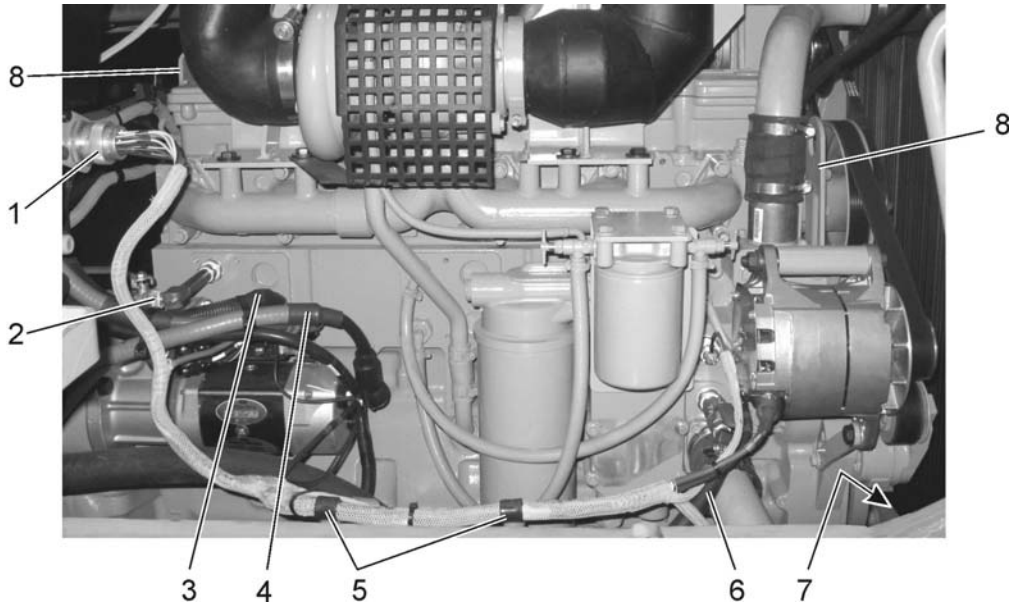
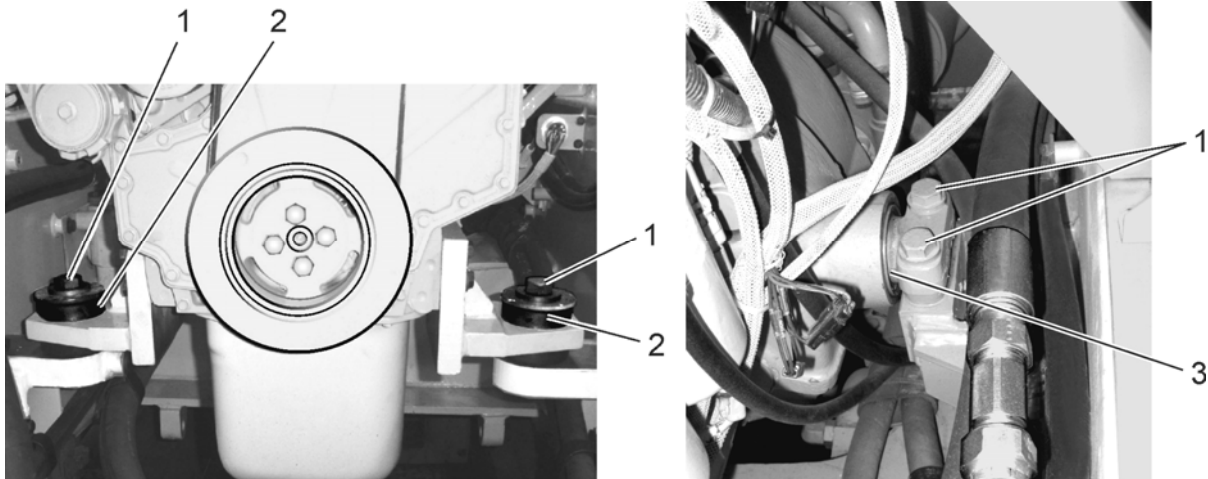

Fig. 12.5. Cranking Motor Disconnecting Points (RH side)
Fig. 12.10. Front and Rear Engine Brackets
27. Install an engine lifting attachment to engine lifting brackets (8, Fig. 12.5).
NOTE: *Check engine suspension parts, shock absorber (2, Fig. 12.10) and silentblock (3), replace for a new one if cracked or worn before engine mounting.*
3. Install an engine lifting attachment to the engine lifting brackets (8, Fig. 12.5). Hoist the engine assy above frame, lower and guide the assy into position. Before lowering the engine on the brackets, introduce the bolts (1, Fig. 12.10) securing assembly into the threaded holes of the brackets. Torque front and rear engine mounting bolts. Disassemble the engine lifting attachment.